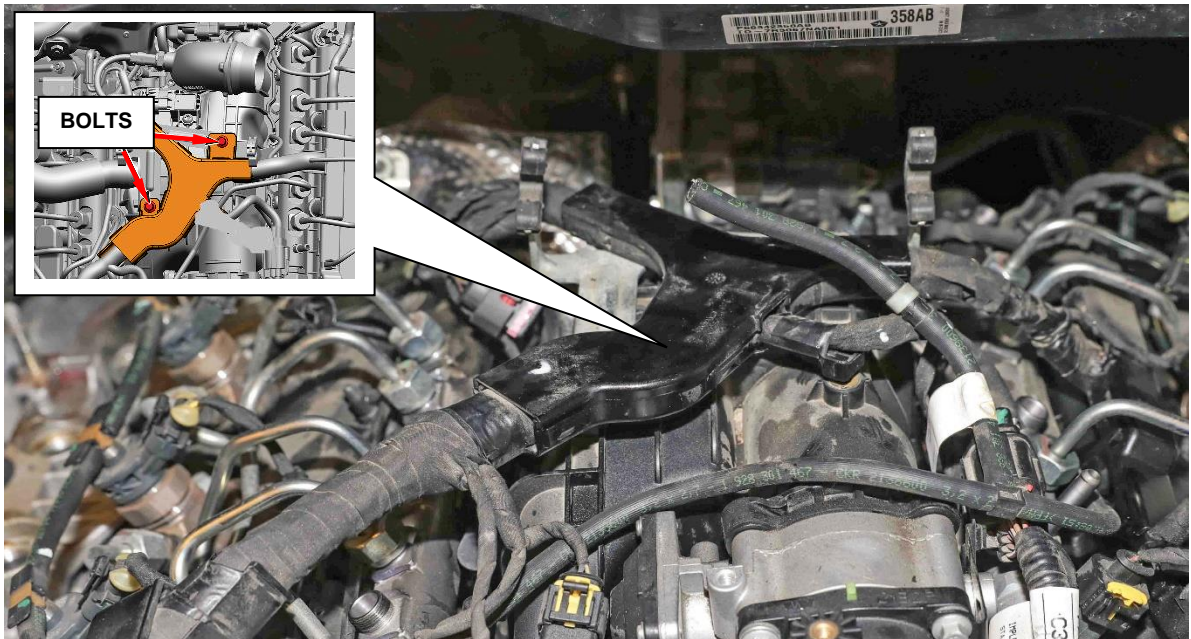

Figure 14 – Wire Harness Loom
16. Remove the 2 bolts securing the wire harness loom (Figure 14).
7. Install the engine wire harness assembly to the intake manifold and push down to seat the wire harness retainers, and tighten the bolts to 11 N·m (8 ft. lbs.) (Figure 14).